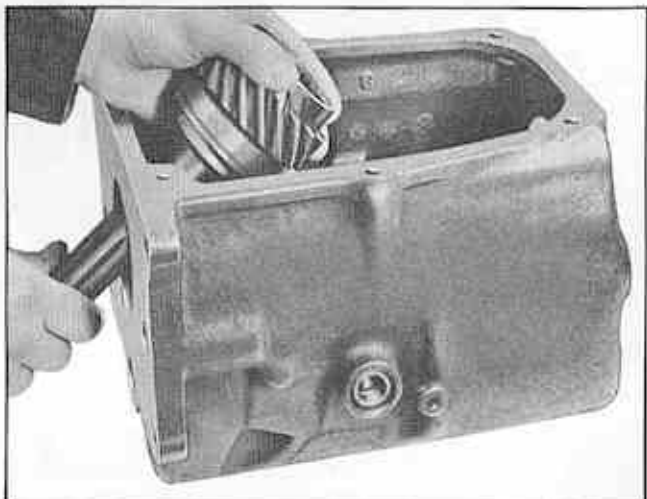

Fig. 28 Removing Main Drive Gear
15. Remove snap ring from main drive gear bearing and tap drive gear bearing assembly toward rear of transmission case to remove (See Fig. 28).